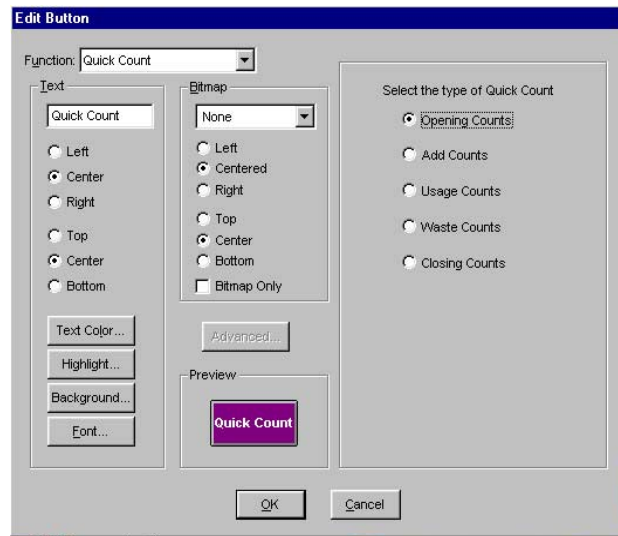

Figure 5-98 Quick Count Button Function
1. Select **Quick Count** from the **Function** drop-down list. Additional options display, as shown in Figure 5-98: